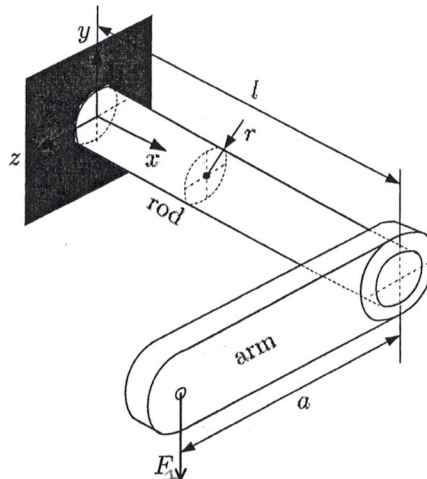
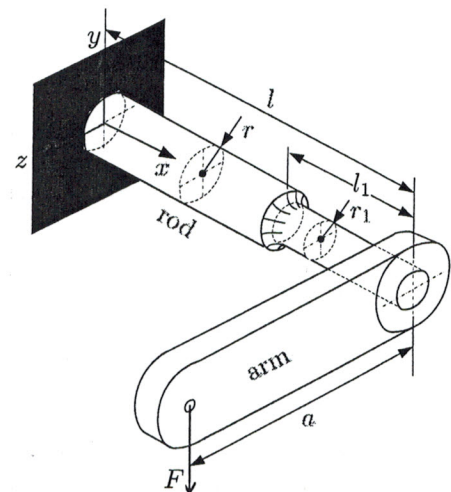

Figure 4 Uniform rod and bracket under loading
Figure 5 Modified bracket
2. Figure 4 shows a bracket. It consists of a rod and an arm. There is a force F applied at the end of the cross arm.
- (a) (5) Draw a free body diagram of the rod (length l component) in Fig. 4. Assume that the thickness of the arm is negligible.
- (b) (10) Write down the load function $q(x)$ for the rod using singularity functions. Find the shear and moment functions, $V(x)$ and $M(x)$. (Note: You do not need to consider torsion here.) *<only for part B>*
- (c) (15) Choose $F = 1000$ N, $l = 200$ mm, $a = 180$ mm and the radius of the rod $r = 20$ mm. Find the most highly stressed location(s) on the rod and write them in (x, y, z) coordinates. For each of these location(s), draw Mohr's circle and find the principle stresses $\sigma_1, \sigma_2, \sigma_3$ and τ_{max} .
- (d) (5) Assume that the rod is made of 1010 hot rolled steel, the yield strength of which is $S_y = 180$ MPa. Find the safety factor(s) for the static failure at the most highly stressed location(s) using both the Von Mises criterion and the maximum shear strength criterion.
- (e) (5) Now, consider that the rod is modified to have a step as shown in Fig. 5 with the length and the radius of the slender section denoted by l_1 and r_1 , respectively. If you solve (a), (b), (c) and (d) again with this new bracket, will you have the same solution? If not, which sub-problem(s) among (a), (b), (c) and (d) will you have different solution(s) and how? Briefly explain.